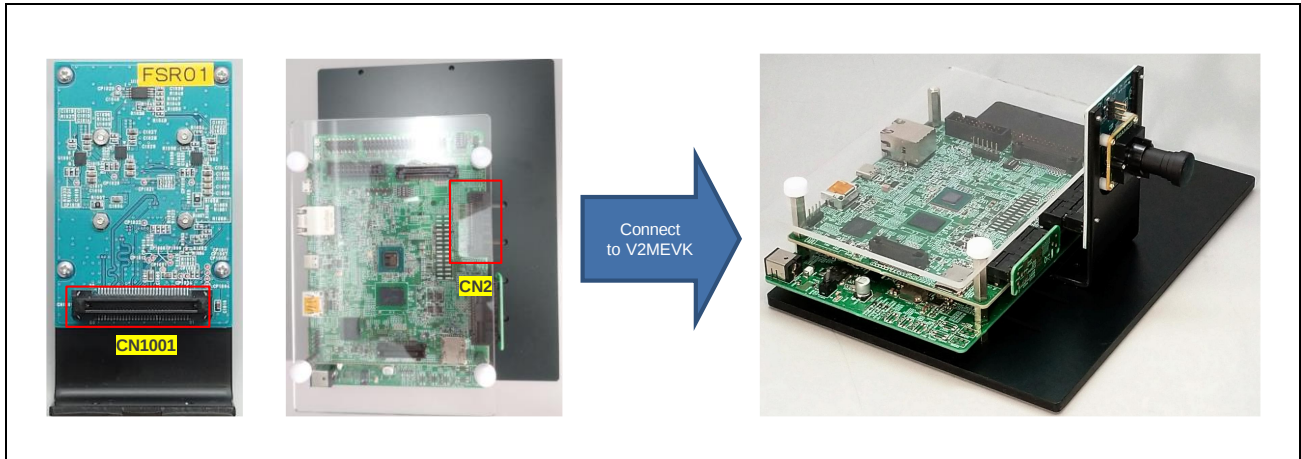

Figure 3.1-7 Connect CN1001 on FSM-IMX568 Adapter Board to CN2 on V2MEVK
- Connect CN1001 on FSM-IMX568 Adapter Board to CN2 on V2MEVK (See **Figure 3.1-7**)